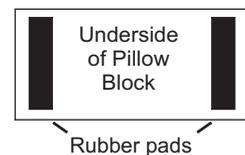

Fig. 8
- E. Cut rubber pad in half and apply to underside edges of each pillow block (see Fig. 8).